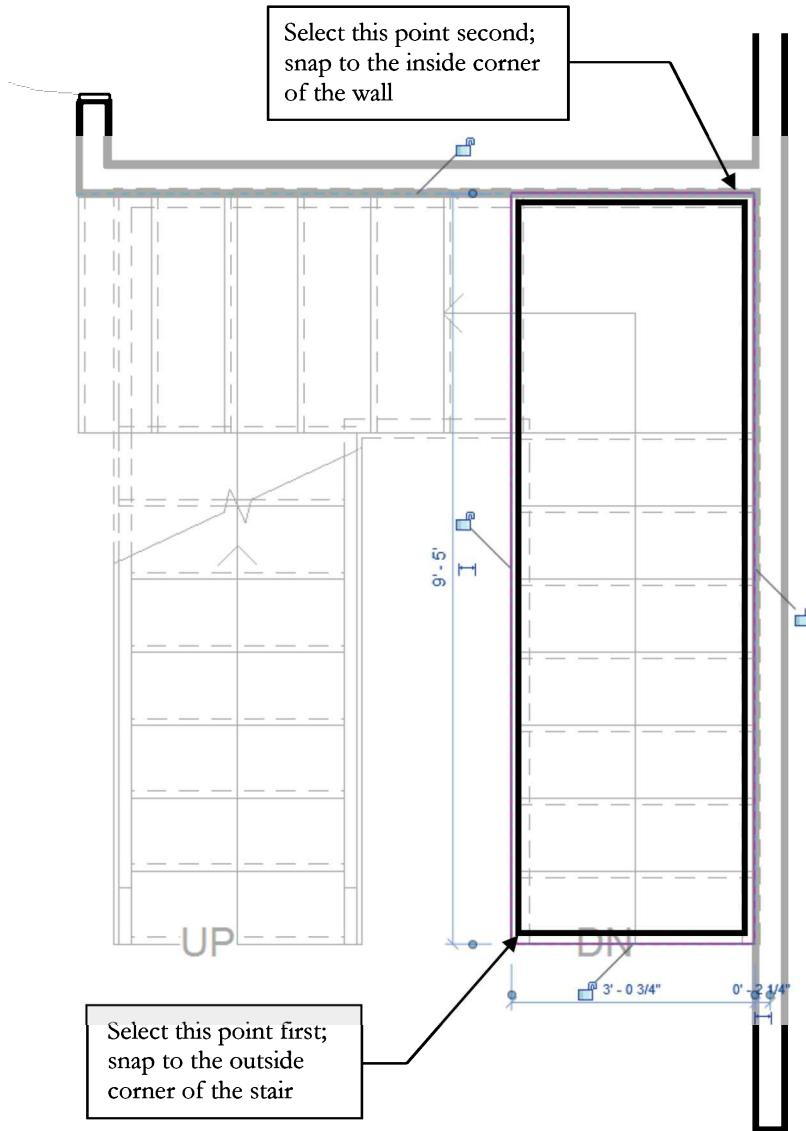

FIGURE 9-1.12 First Floor – sketching floor opening
34. Draw a rectangle defining the stair opening; use Revit's snaps to accurately pick the points as shown in **Figure 9-1.12**.